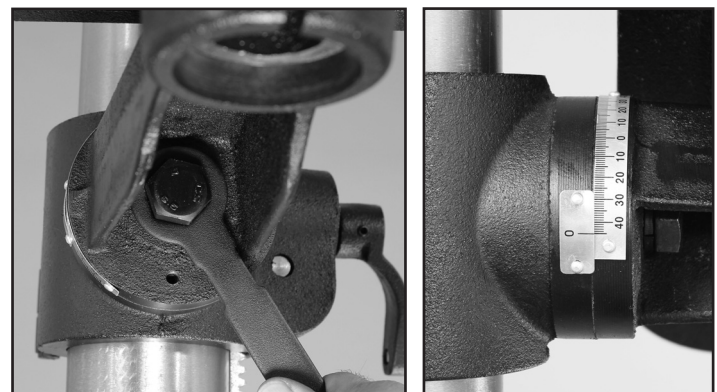

FIG. 15
5. *TO TILT THE TABLE* on an angle, the table and support arm assembly move together. Loosen the large M16x35 Bolt (#19A) with the 24mm wrench provided. FIG. 15 & 16.
6. The table and support arm can be tilted left or right. An Angle Scale (#15A) is provided on the casting to indicate the degree of tilt of the table. FIG. 15.